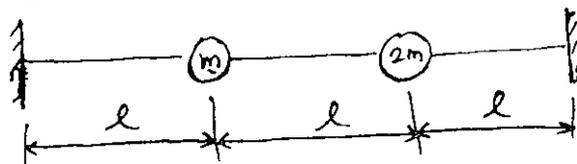

Fig. Q. 12 (a) (i)
12. (a) (i) Determine the natural frequencies and mode shapes for the following system as shown in Fig. Q. 12 (a) (i), when the string is stretched with an initial tension of T. (10)